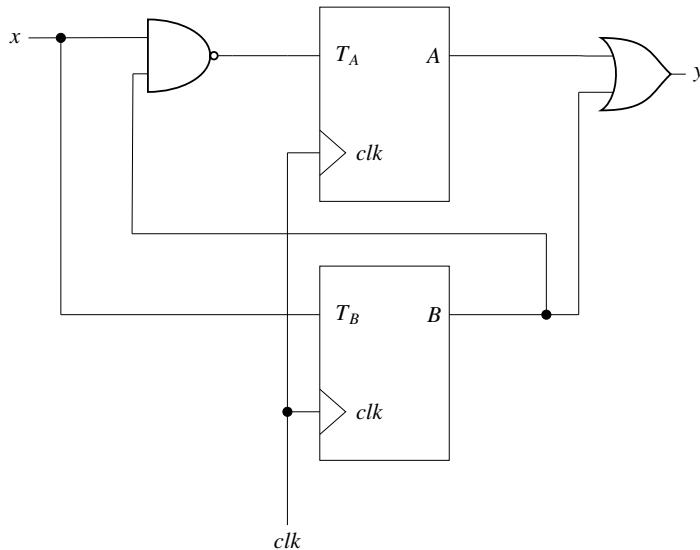

Fig. 5.24
25. Two T-flip flops are interconnected as shown in Fig. 5.24. The present state of the flip flops are:  $A = 1, B = 1$ . The input  $x$  is given as 1, 0, 1 in the next three clock cycles. The decimal equivalent of  $(ABy)_2$  with A being the MSB and y being the LSB, after the 3rd clock cycle is \_\_\_\_\_. (GATE IN 2020)